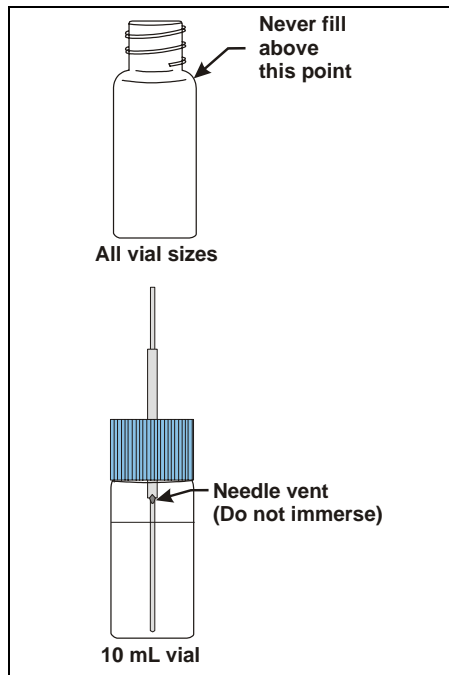

Figure 3-1. Maximum Level to Fill Vials
1. Fill the vials to the vial shoulder or lower (see Figure 3-1). **Do not fill to the top.**